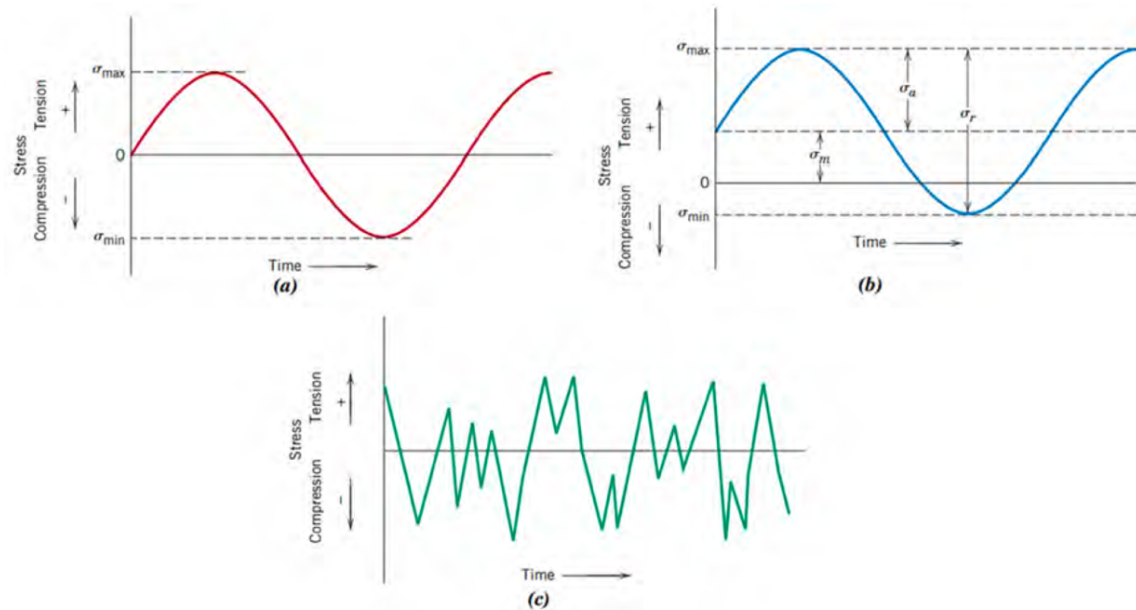

Fig. 4.4: Variation of stress with time that accounts for fatigue failures. (a) Reversed stress cycle, (b) Repeated stress cycle, and (c) Random stress cycle.
4.2.3.1 CYCLIC STRESSES (FIG. 4.4)